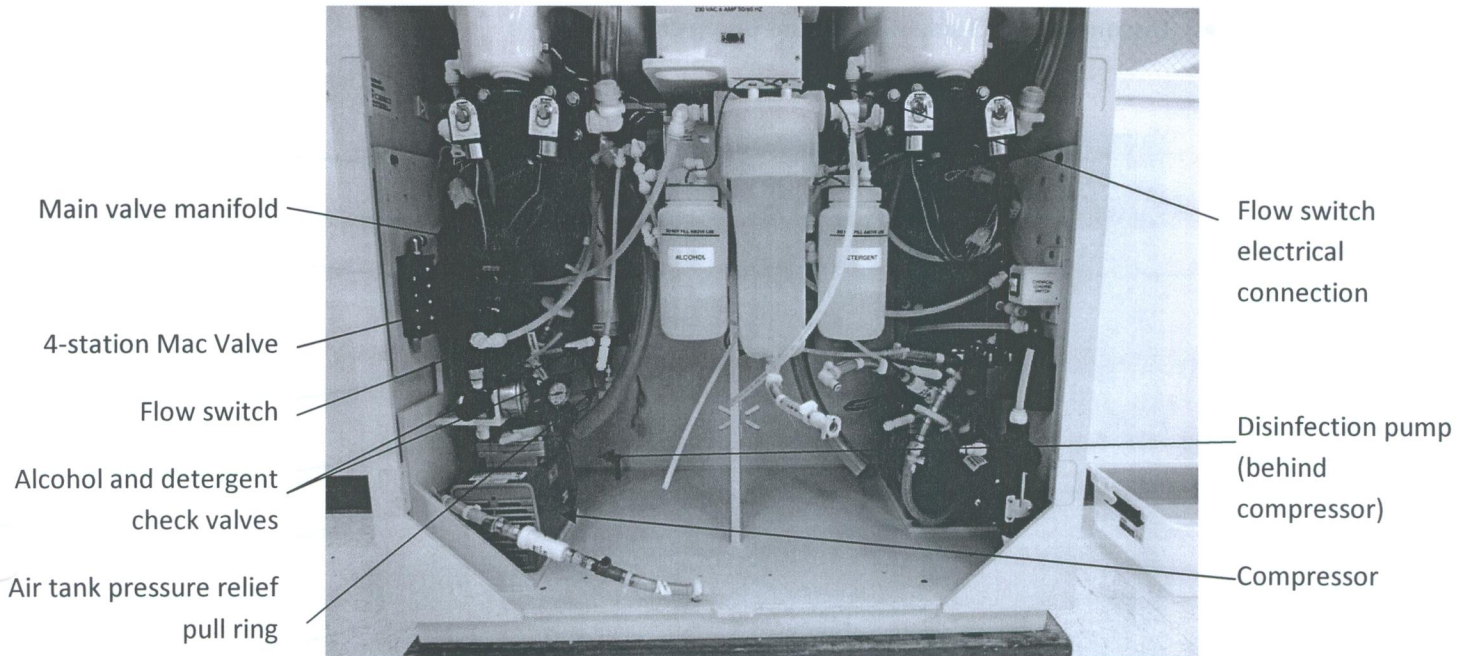

Fig 31
- Connect the 3/8" air line to the A side 4 station Mac valve manifold. Refer to figure 31.
- Connect the 3/8" tube to the A side flow switch. Refer to figure 31.
- Connect the check valve of the A side alcohol line. Refer to figure 31.
- Connect the A side flow switch electrical connector. Refer to figure 31.